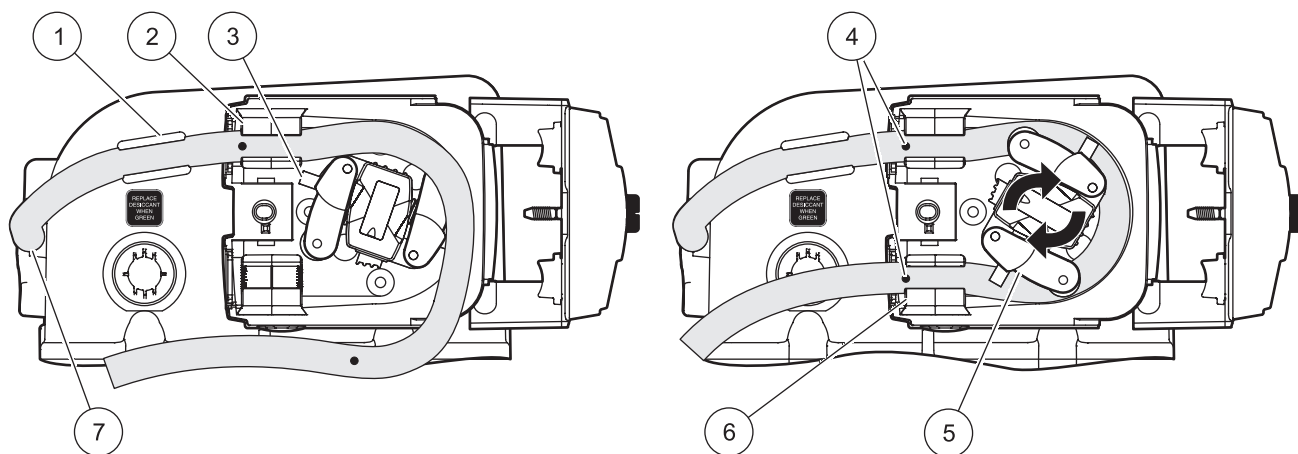

Figure 33 Pump tubing installation
1. Connect one end of the tubing to the liquid sensor fitting. Press the tubing into the pump tube guide (Figure 33).
2. Press the tubing into the upper pump tube track. Make sure that the alignment dot is in line with the upper pump tube track as shown in Figure 33.
3. Hold the tubing with one hand while rotating the pump rotor to guide the tubing around the rotor (Figure 33). The guide pins will push the tubing into place.
4. Press the tubing into the lower pump tube track. Make sure that the alignment dot is in line with the lower pump tube track as shown in Figure 33.